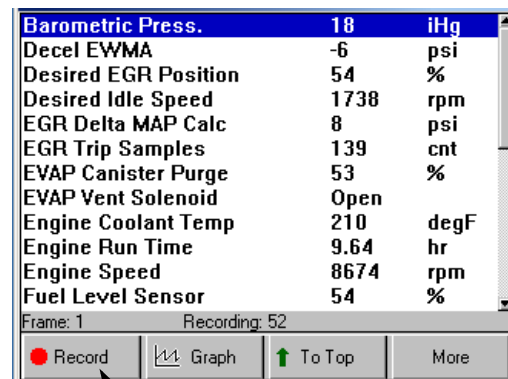

Figure 7.3: Record Function
- 3 Press the **Record** function key (Figure 7.3 on page 39). This does the following: